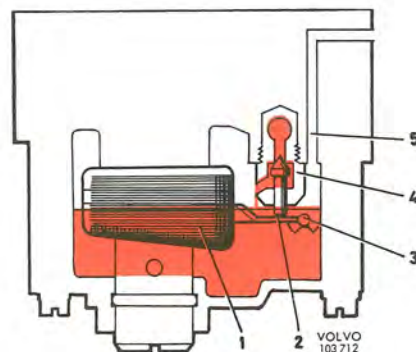

Fig. 2-58. Float system
(4, Fig. 2-58). The float (1), which is made up of twin expanded rubber floats, is carried on a bridge on the lower side of the carburettor housing. As the fuel level rises, the float lifts and, by means of the float arm (2) and tag, closes the needle on its seating when the correct level has been attained.